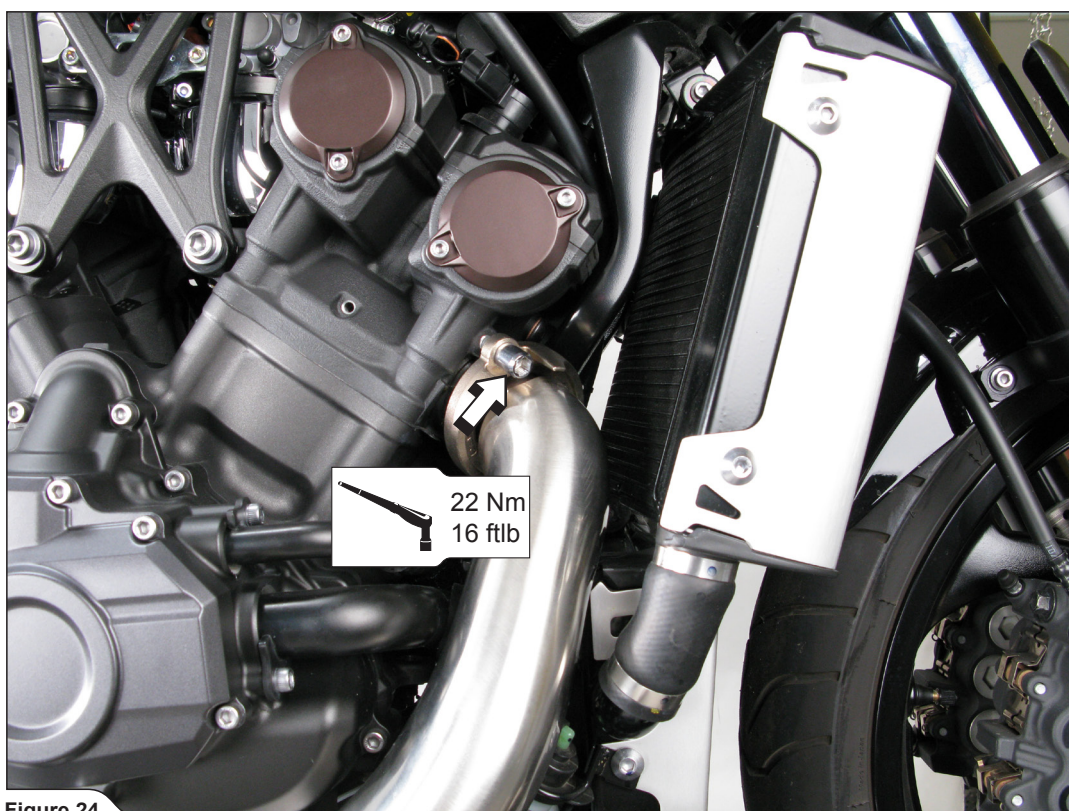

Figure 24
4. **For OPEN SLIP-ON only:** tighten the nuts of the stock header tubes (**Figure 24**). Tightening torque: 22Nm/16ftlb.